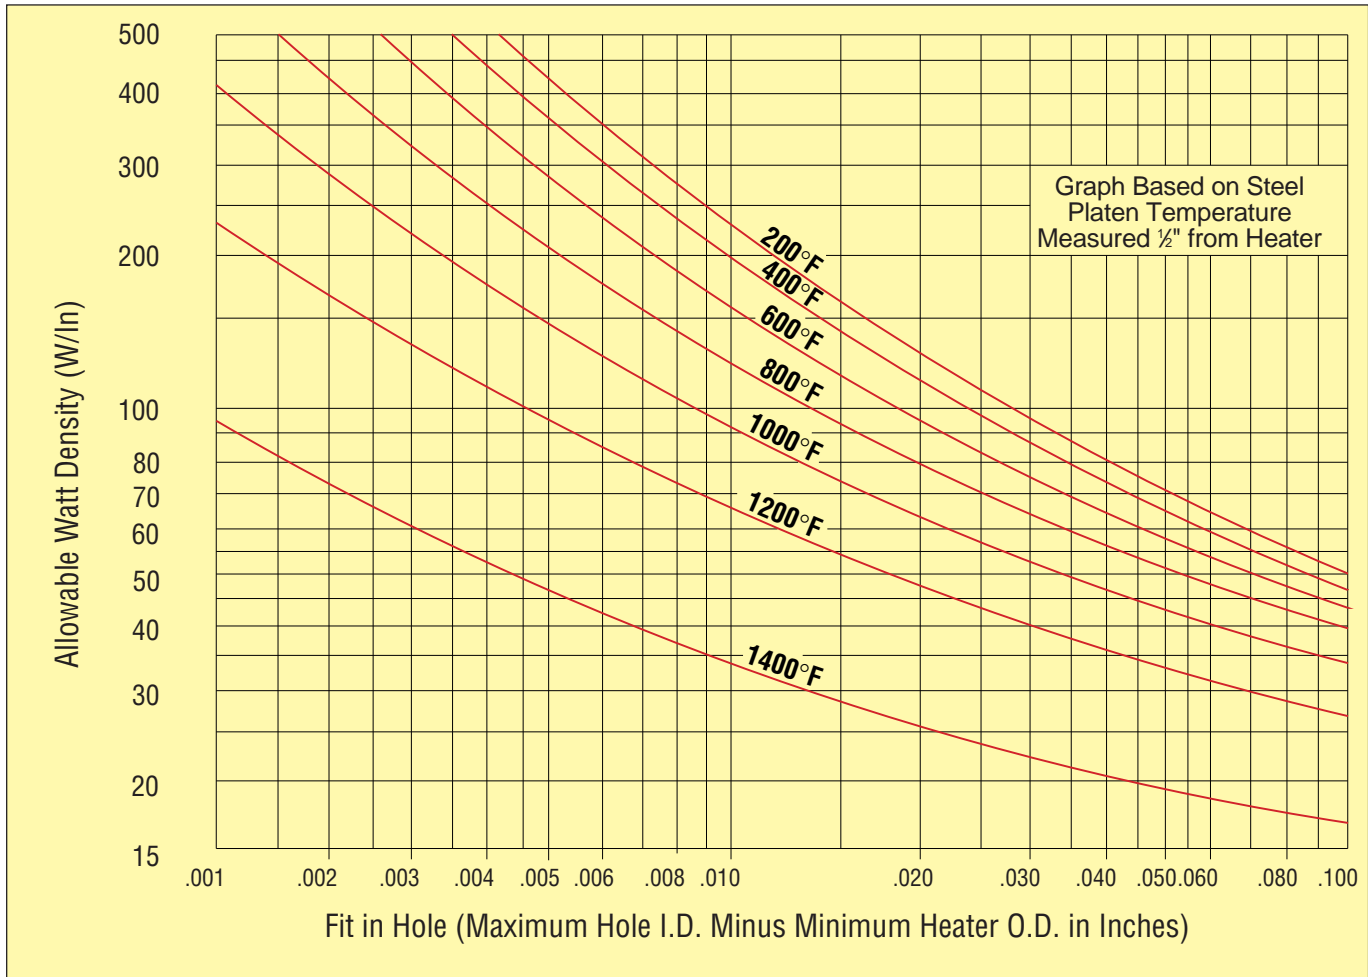

FIGURE D-1 Allowable Watt density vs platen temperature for various fits using OMEGALUX® Type CIR cartridge elements.
Application at medium Watt densities. Figure D-1 (page D-6) shows maximum allowable Watt density for various fits and operating temperatures. The vast majority of applications do not require maximum watt/in², however. Use a Watt density only as high as you need. Take advantage of the safety margin provided by using ratings less than the maximum allowed. Select space heaters for most even heat pattern rather than for the highest possible wattage per heater.
Application at high Watt density. OMEGALUX cartridge heaters are designed and manufactured to provide Watt density capabilities second to none. To obtain best life at the highest Watt densities allowed by Fig. D-1 (page D-6), close attention to application details is suggested.
After the wattage for each heater has been established, the Watt density and fit must be calculated. Then, use Fig. D-1 on page D-6 to be sure that the Watt density is within allowable limits. For example, a ½" x 12" OMEGALUX CIR series rated 1000 Watts has a Watt density of 55w/in². If it were used in a part with an operating temperature of 1000°F with a fit of 0.10", the allowable Watt density from the graph would be 90W/in², thus, the actual Watt density of 55w/in² is well below the maximum allowed. A substantial safety margin would exist and high reliability can be expected.
The maximum permissible sheath watt densities for alloy sheath cartridge heaters at a given desired temperature on the metal are given by Figure D-1. This curve gives watt densities for various fits using CIR cartridge elements. Figure D-2 is useful for using C series elements.
Using the maximum allowable Watt density graphs: FIGURE D-1
3. Operation in square grooves. Round series CIR cartridge heaters may be installed in square or V-shaped grooves if this proves convenient. The inside of the groove should be treated to improve its emissivity (by oxidizing or anodizing). Allowable W/in² can be estimated by using the .050 fit line in Figure D-1 on page D-6, providing that the square is approximately the same width as the nominal diameter of the heater.